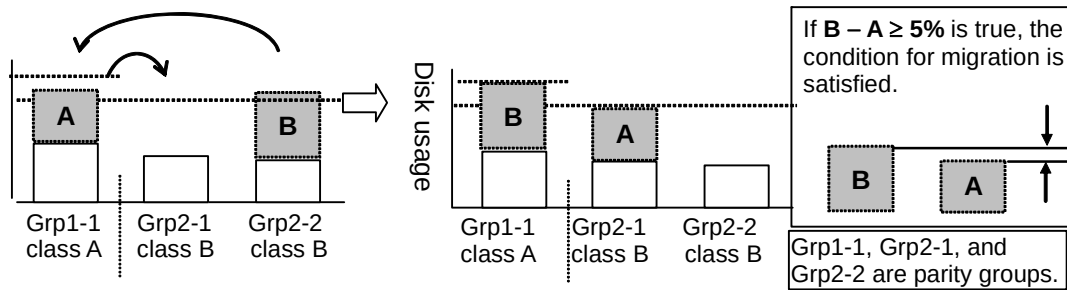

Figure 3.11 Migrating a Volume Automatically to a Lower HDD Class
To be able to move one volume into a different HDD class group and then force another volume out of that class group, the auto migration function requires a minimum five (5) percent difference in estimated disk usage between the two volumes (see Figure 3.11). If the anticipated difference in disk usage is less than 5%, auto migration is considered an ineffective strategy, and the volume is not moved.